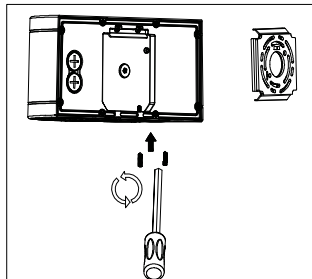

Fig. 2
2. Use the Hex Wrench to loosen the 2 Allen Screws. (Fig. 2)